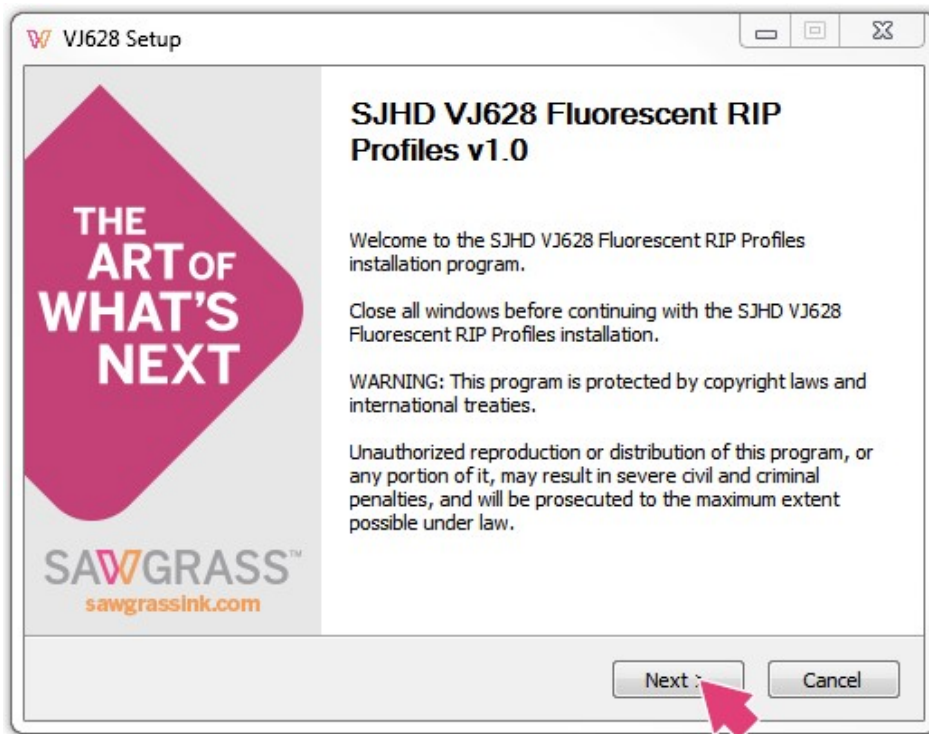

Figure 3
3. Select **Next**. See Figure 3.